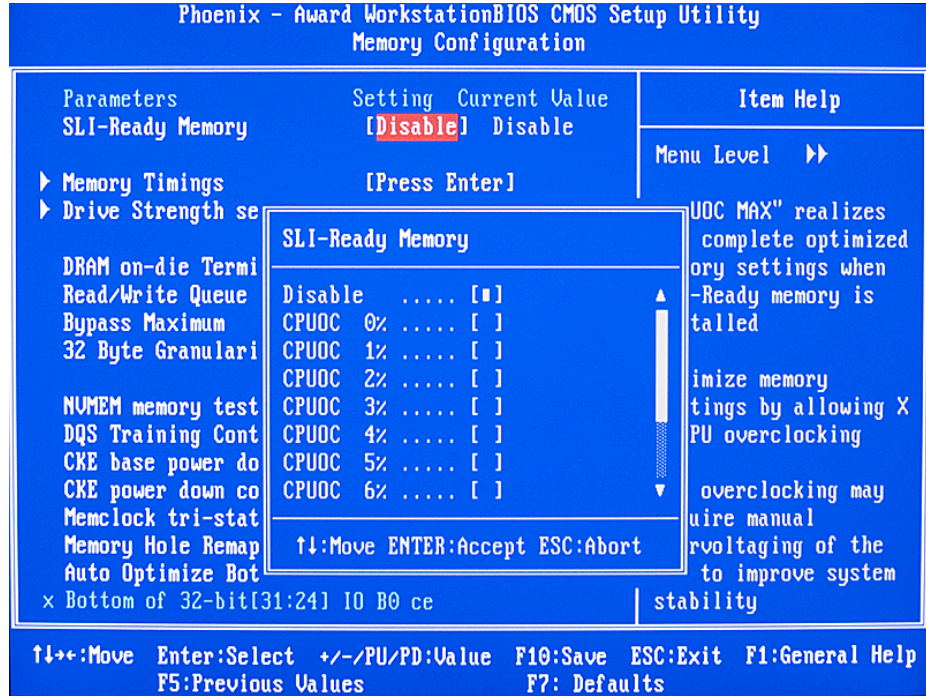

Figure 11. Disabling SLI-Ready Memory in BIOS
1. Turn off **SLI-Ready Memory** feature in the **Memory Configuration** BIOS menu as shown in Figure 11.